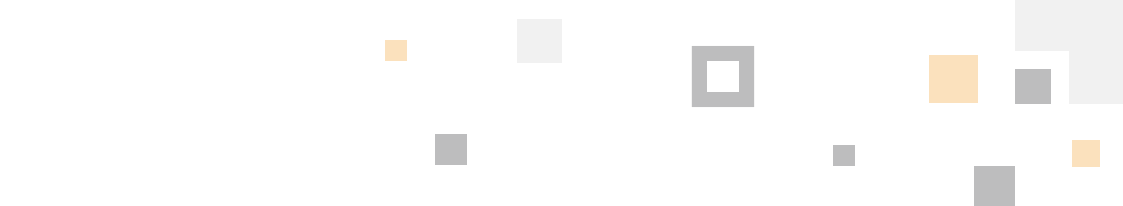

Figure 11). The inputs can be used to control the BIB. They can be set to active high or active low.
**Note:** this option is only visible if the user level is set to 'Integrator' (see Figure 11)